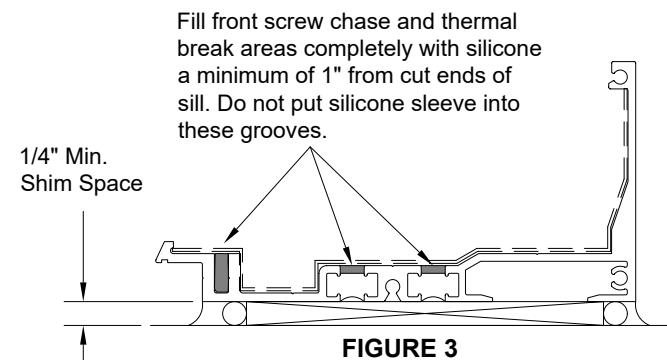

FIGURE 3
5. Fill front screw chase and thermal break areas completely with silicone beyond splice a minimum of 1 inch from cut end of sill. (Figure 3)